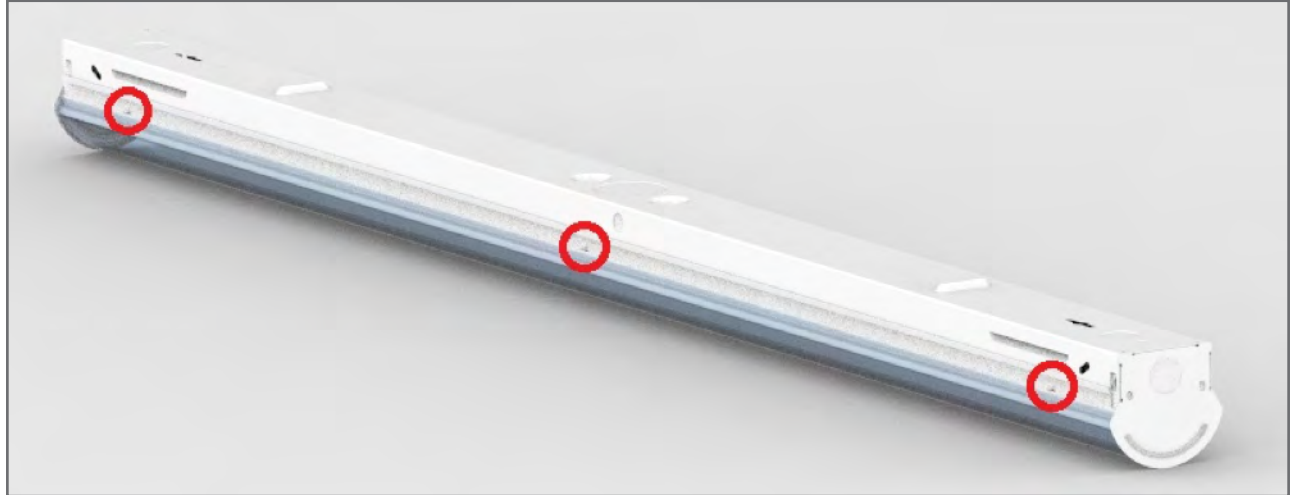

FIGURE 3
1. Squeeze the housing above each of the engagement points (circled in red in Figure 3) and separate the reflector plate and lens from the housing.